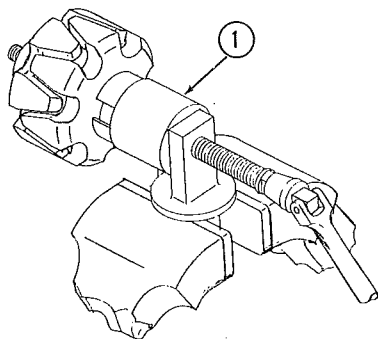
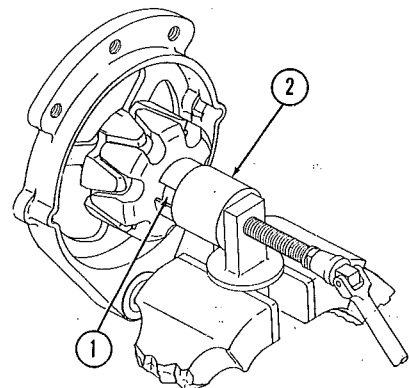

FIG. 78—REMOVING FRONT BEARING
FIG. 79—REMOVING REAR BEARING
i. Remove the front and rear bearings from the rotor shaft by using Bearing Remover C-3934, or an equivalent puller, for the front bearing, as shown in Fig. 78, and Bearing Remover C-3936, or an equivalent puller, for the rear bearing, as shown in Fig. 79.